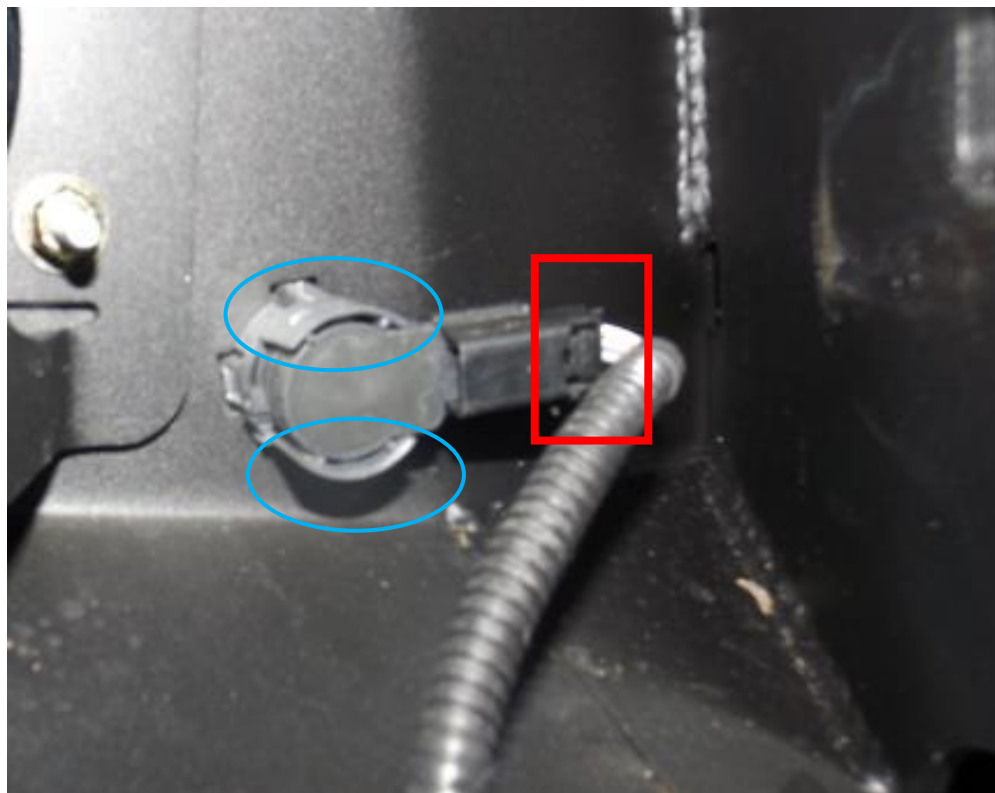

Figure 1
- H. Remove OEM electrical harness from bumper. Sensors can be disconnected from housing by depressing the plastic clip indicated by the red square (Ref. Figure 1).**
- J. CAREFULLY remove sensors from plastic housing by gently pulling the top and bottom tabs, indicated by blue circles (Ref. Figure 1), away as sensor is pulled out. Do not push on front of sensor as this will damage the membrane. Place sensors face up in a safe location.**